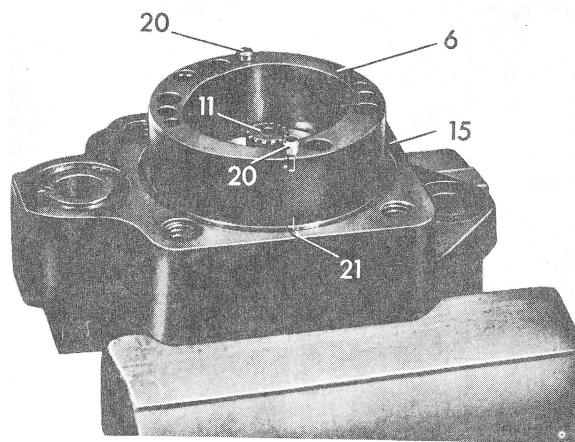

Fig. 5
5 Place cam ring (6) on fitted pins (20) in such a manner that the respective markings (21) on housing cover (15) and on cam ring are in alignment (Fig. 5).
Note: When a new cam ring is installed, position in such a manner that the pressure oil holes (b) are accurately above the recesses (d) in housing cover (Fig. 5 and 7).